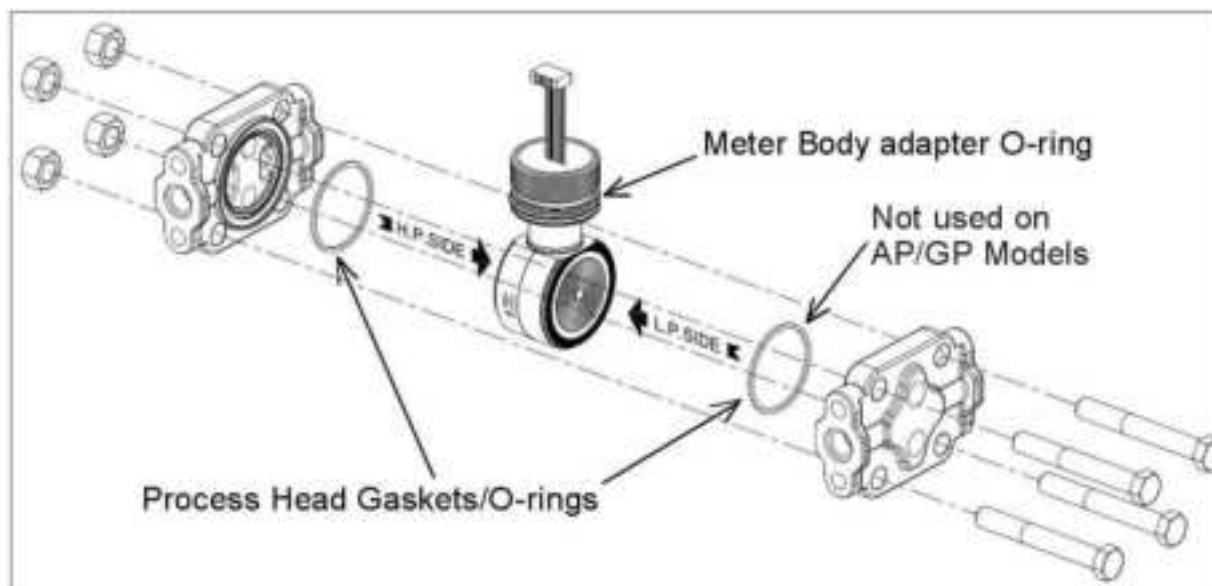

Figure 26 – ST 700 Standard Transmitter - Meter Body Reassembly
8. Refer to Figure 26. Use a 2mm hex wrench to completely loosen the set screw on the outside of the housing to permit rotating the meter body.